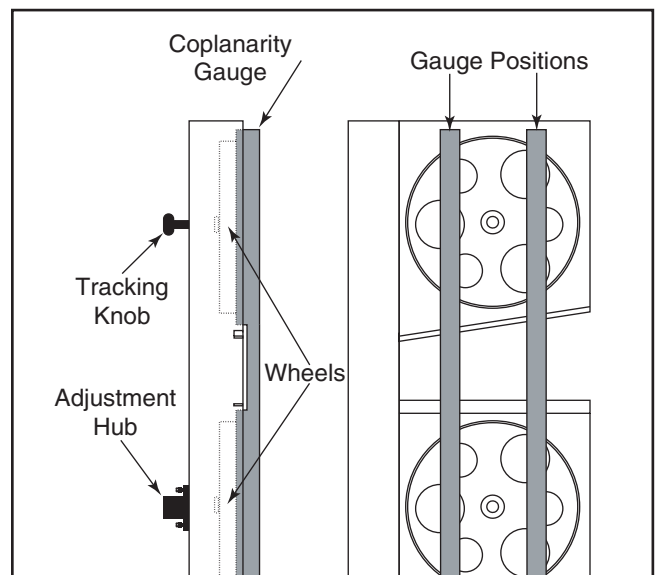

Figure 105. Checking for coplanarity.
7. Place your coplanarity gauge up against both wheels in the positions shown in **Figure 105**.